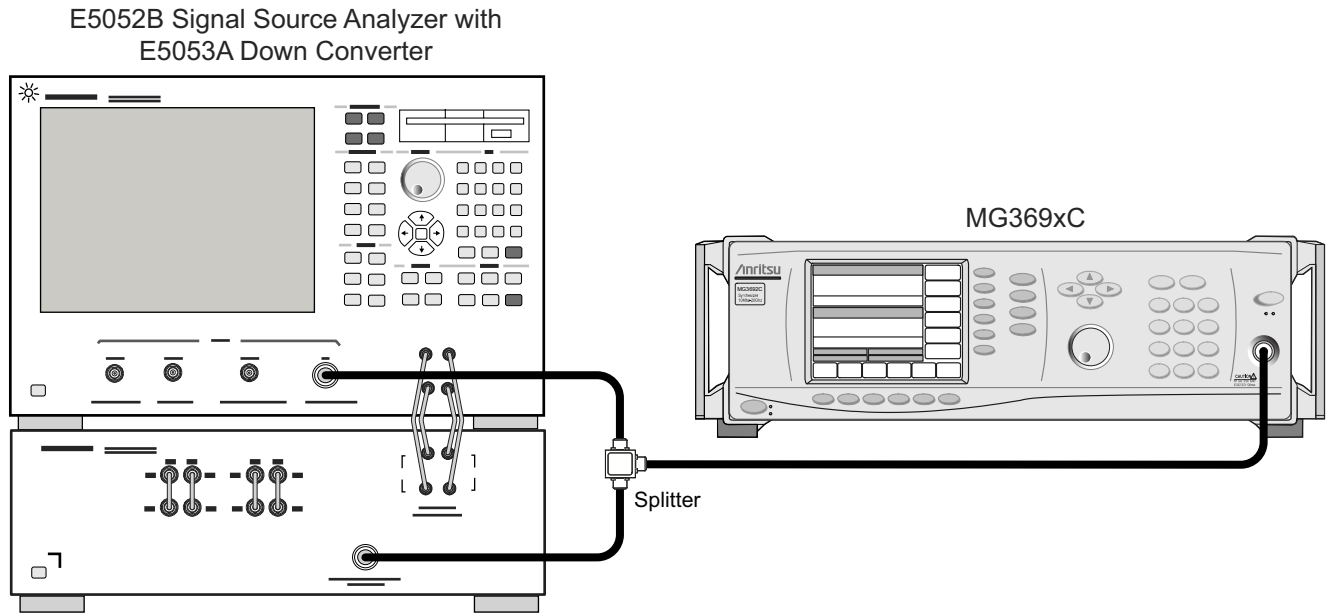

Figure 4-4. Equipment Setup for Single Sideband Phase Noise Test with E5052B and E5053A
- e. Connect the MG369xC as shown in Figure 4-4.